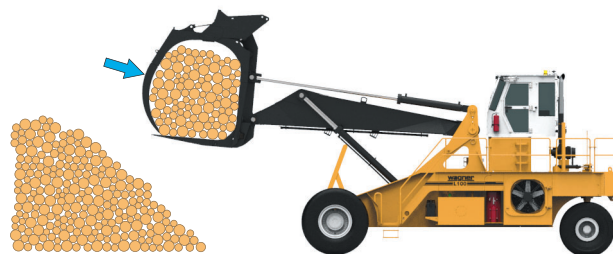

Figure 4-9-2
10. Before backing from the pile, the operator should actuate the hold-down long enough for the carriage to close tightly to prevent logs from spilling. (See Figure 4-9-2).